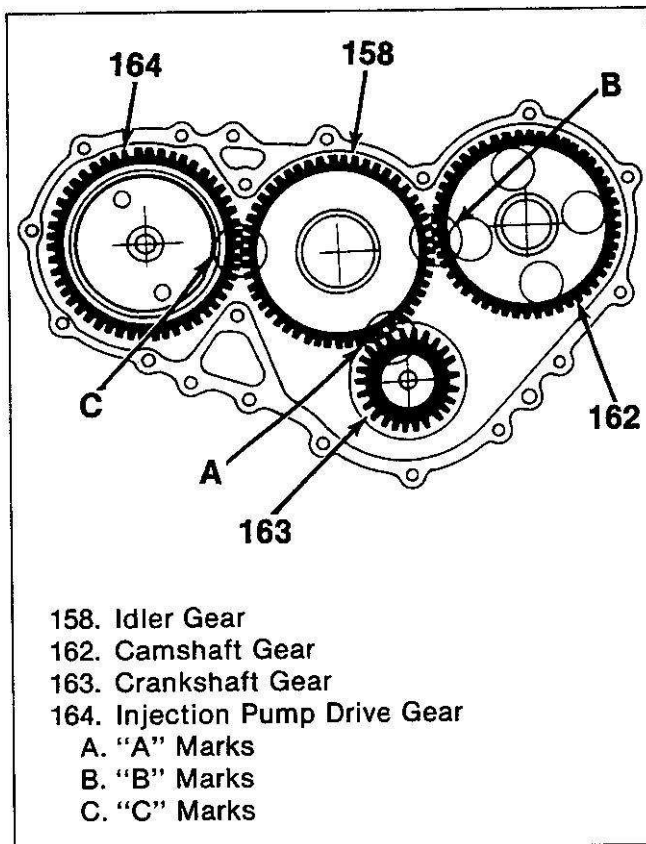

Figure 82. Gear Train Timing Marks
— Turn the crankshaft until the timing marks align, as shown in figure 82.
- The timing marks must align as shown in figure 82.
3. Plate (159). The chamfer faces away from the idler gear (158).
4. Bolts (161) and washer (160).
- Turn the crankshaft until the timing marks align as shown in figure 82.
7. Idler gear (158) as outlined in "Timing Gear Replacement" previously in this section.